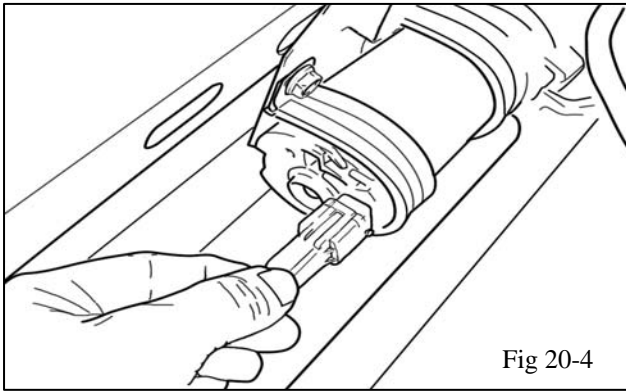

Fig 20-4
- (d) Plug the two wire connector into the intercooler pump (Fig 20-4). Secure the extra wire with tie-wraps (H4).